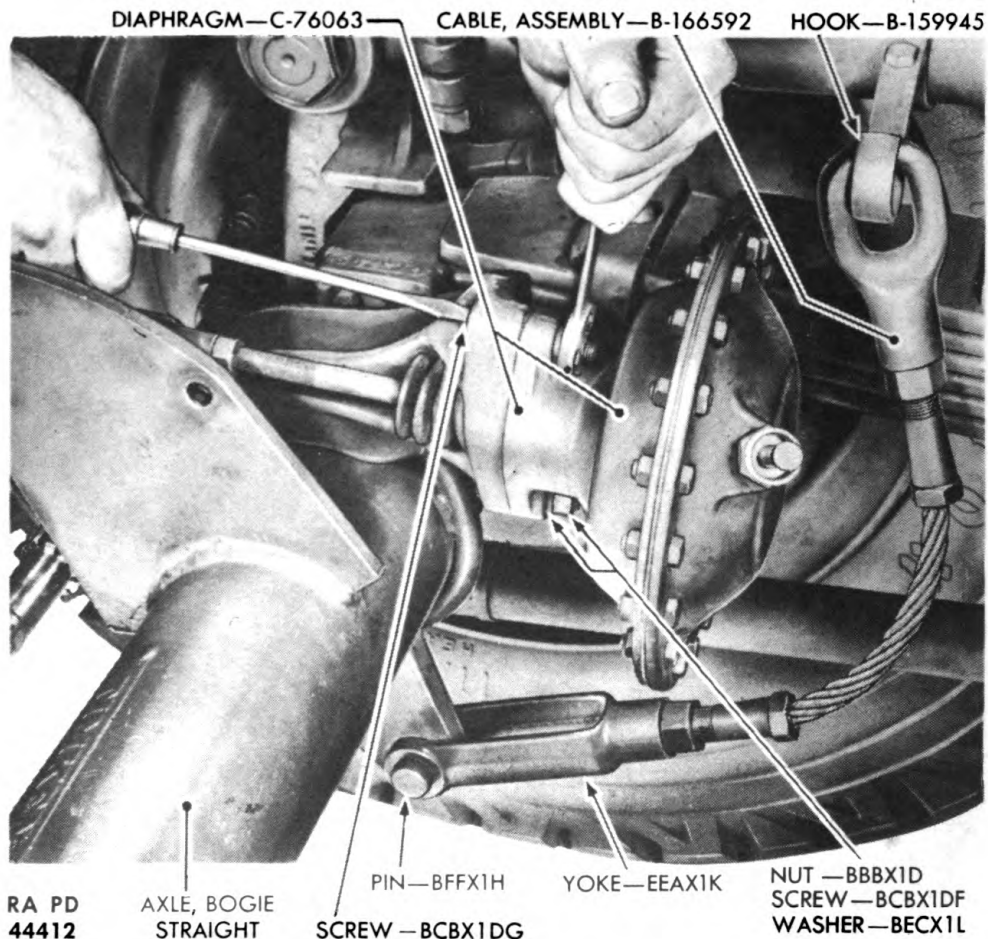

Figure 252—Removing Right Front Air Brake Diaphragm
(1) Remove three nuts BBBX1D and washers BECX1L from screw BCBX1DF and screws BCBX1DG (fig. 252). Remove three screws, and lift brake diaphragm C76063 away.
(2) Repeat procedure described in step (1) above to remove the other front brake diaphragm C73328.
- (1) Remove cotter pin BFA1EH and tap rod end pin BFFX1H out of yoke EEAX1K (fig. 252).
- (2) Remove cable assembly B166592 from hook B159945.
- (3) Repeat procedure described in steps (1) and (2) above to remove the other front wheel supporting cable.